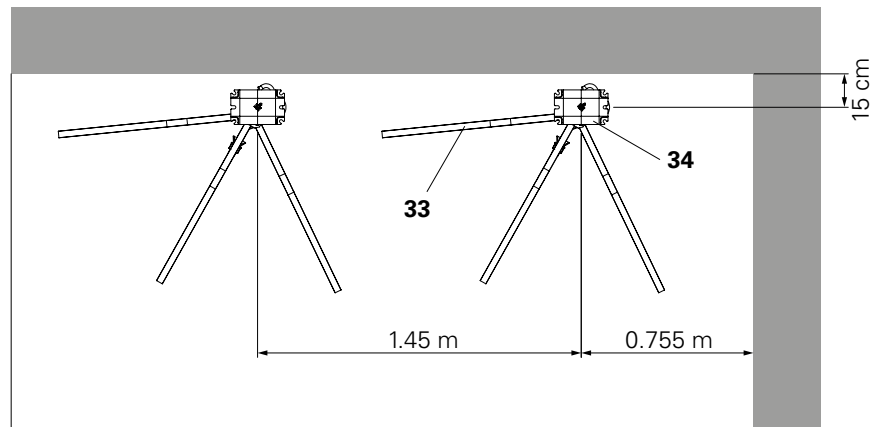

Fig. D6.08
- Set up the first slab prop with a 0.775 m gap to the front wall and the second slab prop at a distance of 1.45 m from the first (Fig. D6.08).